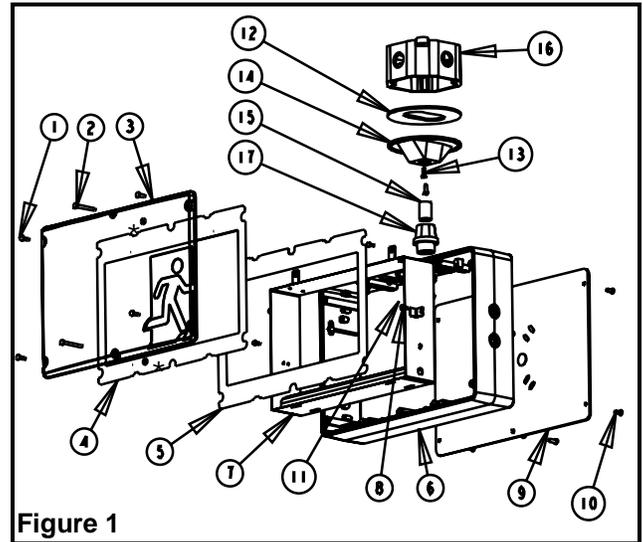

Figure 1
Ceiling Mount (Figure 1)
- e. Ensure that the retaining screw is accessible (see Figure 1, Part No. 13). Use the screws from the junction box to secure the cover to the junction box.
- f. Remove the left knockout on top of the frame. Determine which holes in the frame will be used for mounting (see Figure 1). Support frame with two blocks of wood, maximum one inch apart. Strike knockouts with a hammer and screwdriver. Clear holes of burrs to allow proper assembly of nipple/wire assembly.
4. Install the lens by using the 6 tamper-proof screws. The o-ring has to be installed on the center screws between the lens and the frame as shown in figure 1.